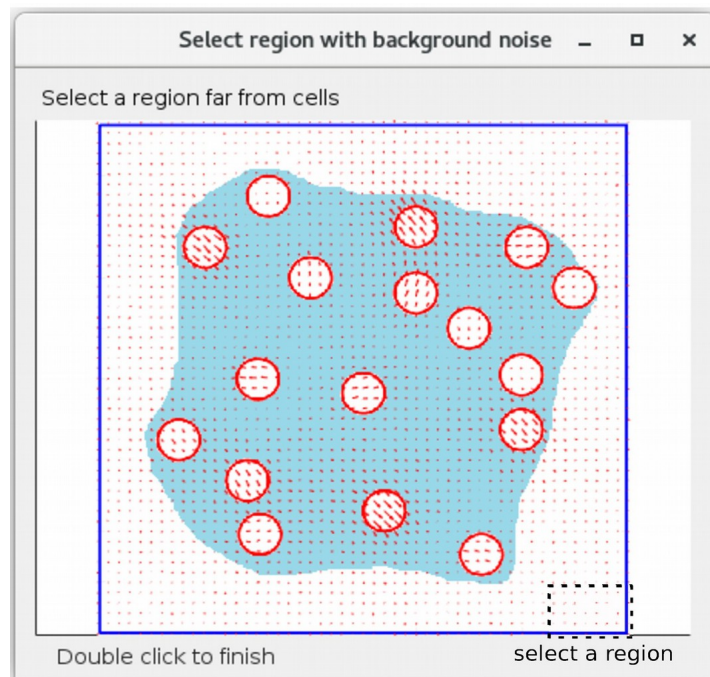

Figure 8. Manual selection of a region to estimate background noise.
- If a sample of the displacement noise is not available, you can estimate the noise variance by choosing a region of interest (ROI) where the systematic displacement is small, e.g., far away from the cell. To do this, select the option ‘Manual noise selection’. A window as shown in Figure 8 will appear. Select your ROI and double click to finish. The program uses the last ROI that was chosen to create a separate noise sample for every dataset in a movie.